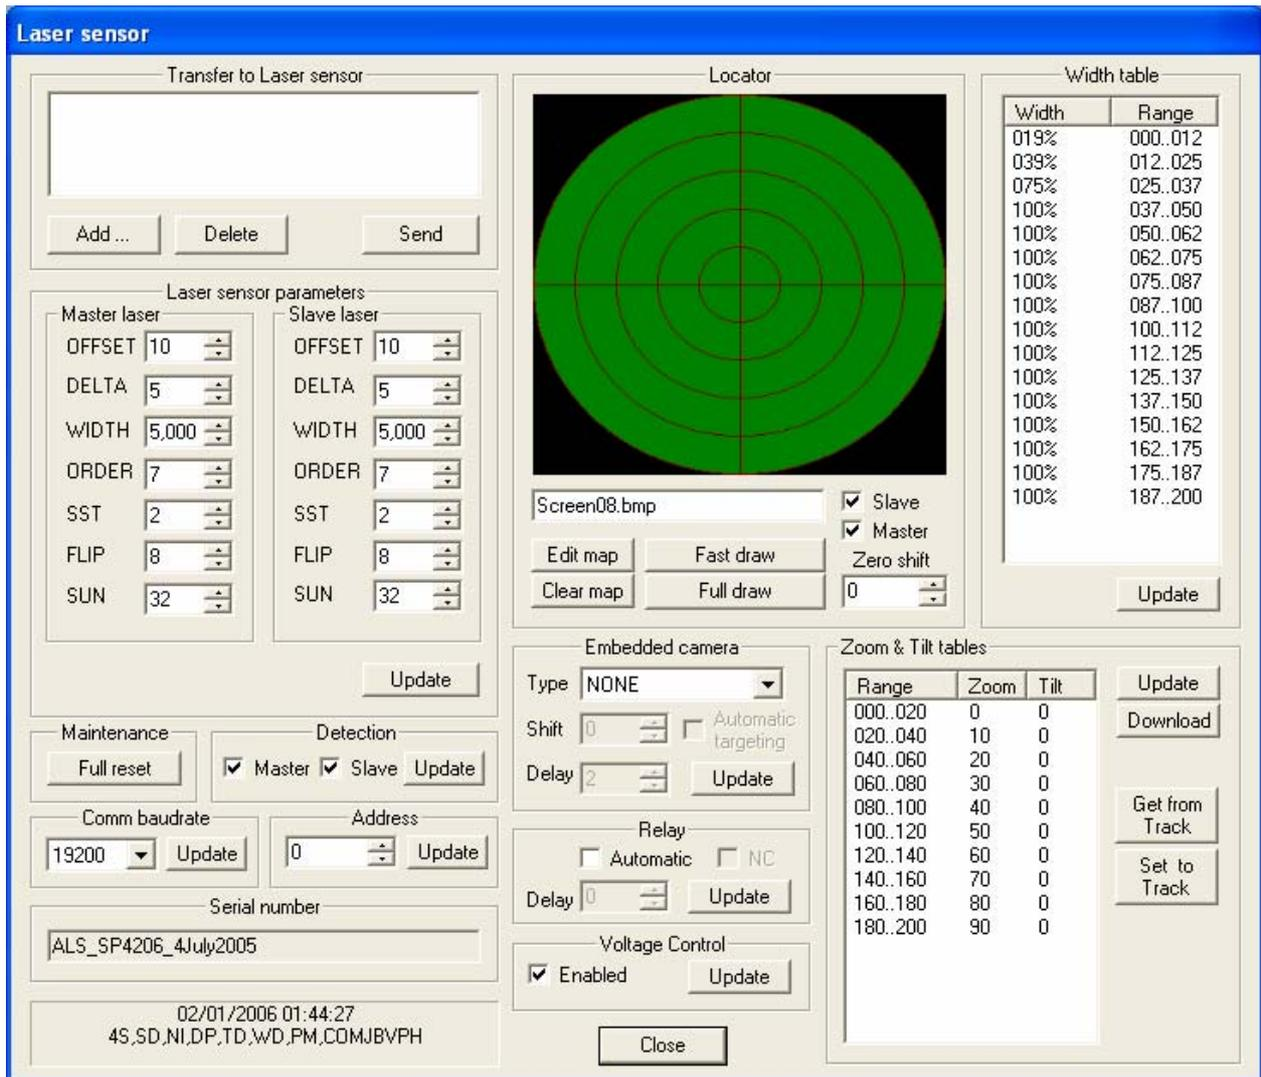

Figure 4-5: Laser Sensor (setup) window
- (1) In the PC setup window, press the ALS button to open the ALS (setup) (See Figure 4-5).